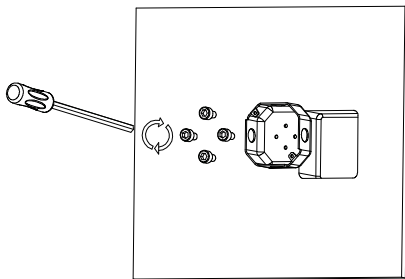

Fig. 1
1. Install the mounting bracket to the junction box. (Fig. 1)